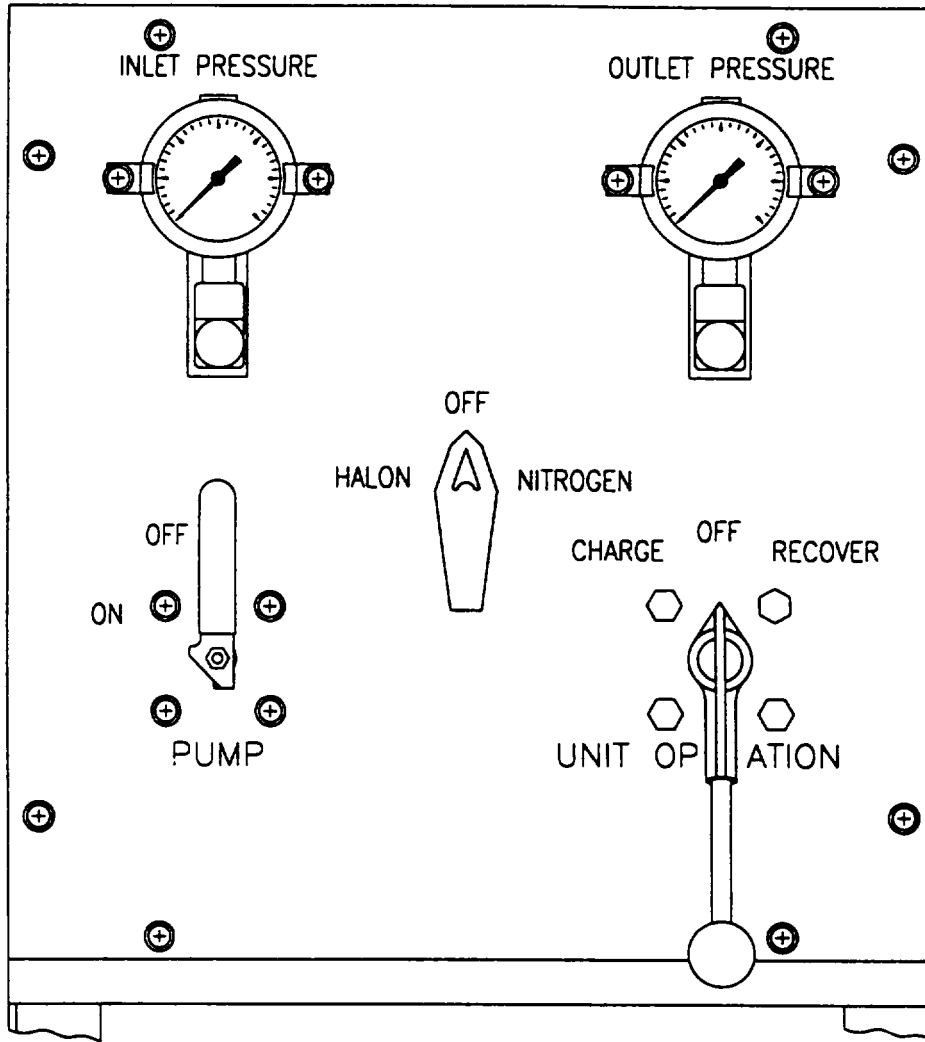

Figure 2-7. Control Panel Layout.
**2-9.2 For the Bradley Infantry Fighting Vehicle (engine compartment). (Refer to Figure 2-7).****WARNING**
- b. Install extinguisher support base, P/N 12463589 (item 6, Appendix D) on agitator bracket.
**The fire extinguisher must have a safety control valve (item 2, Appendix D) attached.**
**2-10.1 For the M1 Tank or any Cylinder with a Schrader Valve. (Refer to Figure 2-7.).****WARNING**